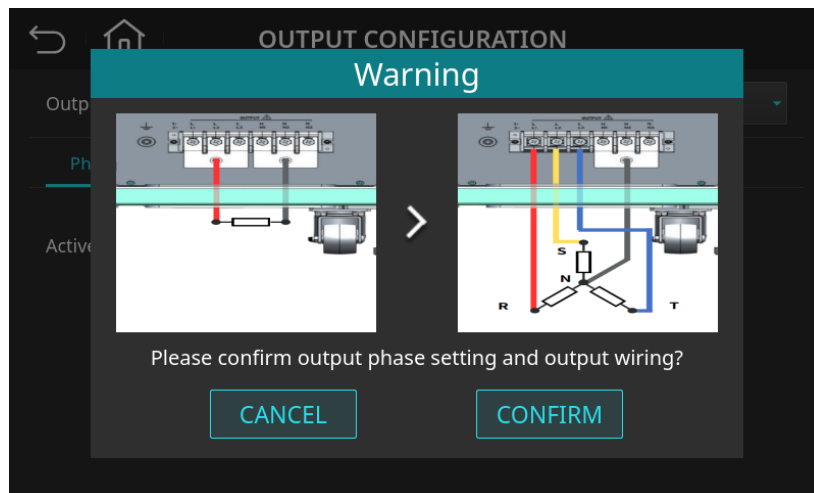

Figure 4-22: Phase Mode Switching Warning Page (Switching from Single Phase to Three Phase)
3. After confirming the output wiring is in three-phase mode, press the "CONFIRM" button, as shown in Figure 4-22.